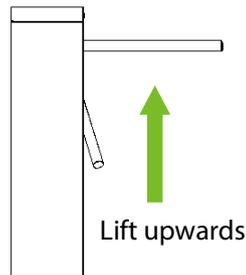

Figure 2-3
- Lift the arms manually, as shown in Figure 2-3.